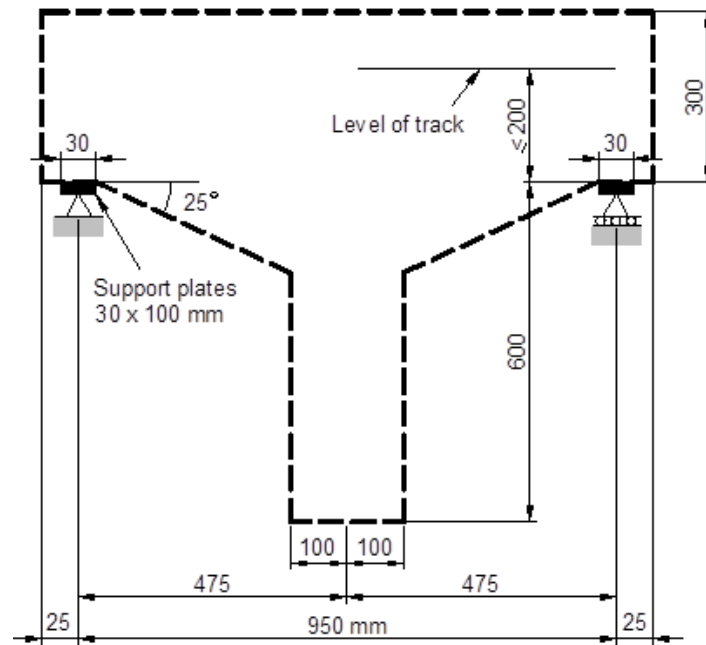

Figure 2: Important Dimensions. The broken-line contour defines the maximum allowed dimensions of the bridge in elevation. All dimensions in mm.
19. The bridge must fit within the envelope shown in Fig. 2 in the Appendix.